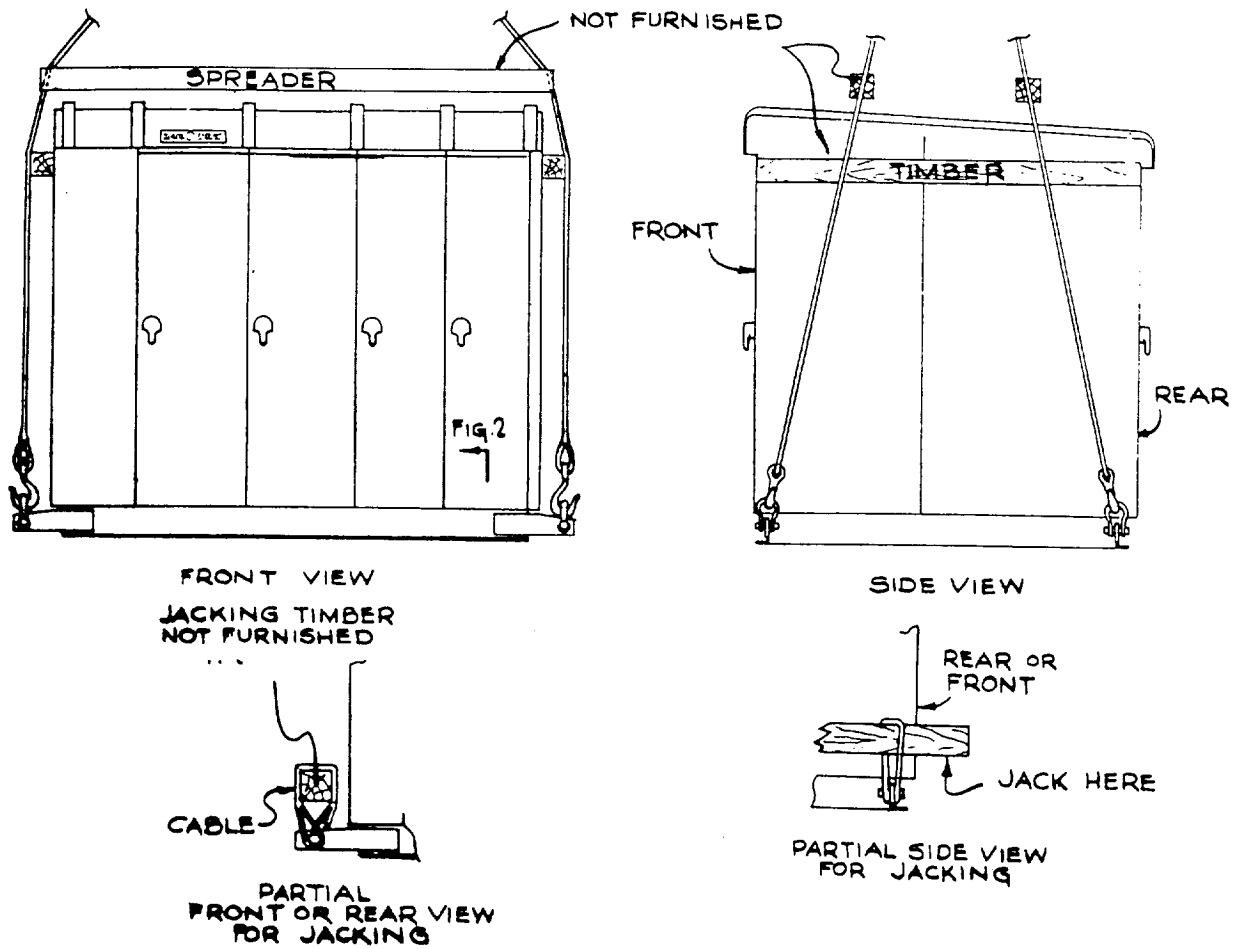

Fig. 10 (0673D0500-003-3) Methods Of Handling Outdoor Equipment.
Methods of handling outdoor switchgear, shown in Fig. 10, are much the same as for indoor equipments except that lifting plates are provided at the base of the structure. The lifting plates should be removed after the equipment is permanently anchored, so that passageway at the ends of the equipment will not be obstructed.
2. The switchgear packages should be placed on its foundation with the aid of crane or jacks as shown in Fig. 9 for indoor equipment and Fig. 10 for outdoor equipment.